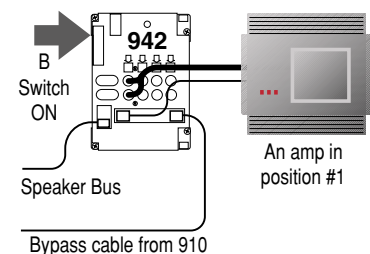

Figure 27. Amplifier Bypass configuration. No amp may be connected to position #4.
- Connect one end of the Front High-Level Bus to the fourth position on the last 942 module in the Front Amplifier Product Group (see Figure 27). Turn on the "B" switch to activate bypass on that module.